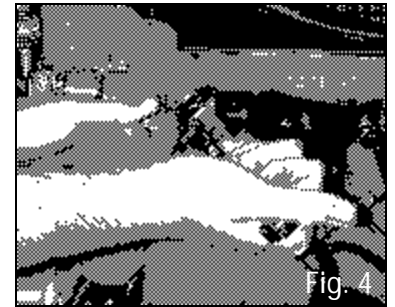

Fig. 4
- Relieve fuel pressure first by loosening the banjo bolt connecting the fuel line to the fuel filter. Place a shop towel or rag over the wrench while loosening the banjo to soak up any fuel spray (See Fig. 4). When loosening or tightening the banjo bolt on the fuel filter can, use a 19mm wrench of the hex of the fuel filter can to counteract the torque of loosening or tightening the banjo bolt. This will prevent the fuel filter can and bracket from being improperly loaded during loosening or tightening at the banjo bolt.